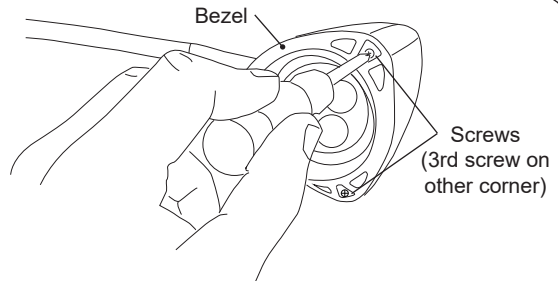

Figure 1. Bezel Screw Locations
2. Remove the (3) screws that secure the bezel to the lighthead (figure 1).